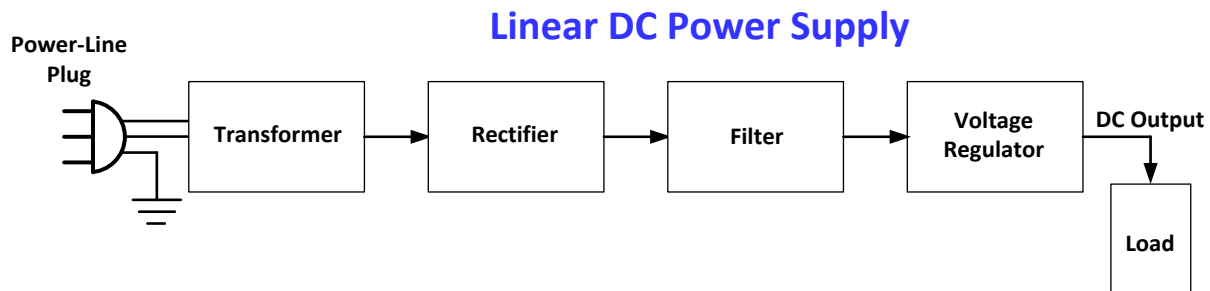

Figure 4-1.
A linear power supply design applies the AC line voltage (e.g., 120 Vrms at a frequency of 60 Hz) to a power transformer to (usually) lower the voltage before being applied to the rectifier, filter and regulator circuitry [see Fig. 4-1]. The size and weight of a transformer is inversely proportional to the frequency of operation, at 60 Hz, this results in a larger, heavier DC power supply.
Figure 4-1 provides the block diagram of a linear DC power supply. In this chapter we shall examine each of the functional blocks. Consider this discussion to be an overview, but the details will be provided throughout this chapter. The transformer usually reduces the sinusoidal power-line voltage. The rectifier distorts its sinewave input (with its average value of zero) to produce a pulsating waveform that has an average (DC) value. The filter smooths out the pulsating DC. The voltage regulator provides a constant DC voltage, reduces ripple, and provides protective functions.